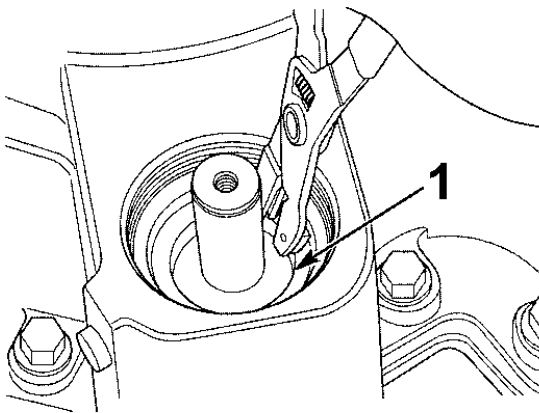

Figure 21 Remove Inner Piston
42. Remove the inner shift piston snap ring from the shift shaft and remove the shift piston (Figure 21).
45. Install O-rings onto the inner and outer diameter of the inner piston. Install the inner shift piston and snap ring onto the shift shaft (refer to Figure 21). Inner piston can be installed in either direction.